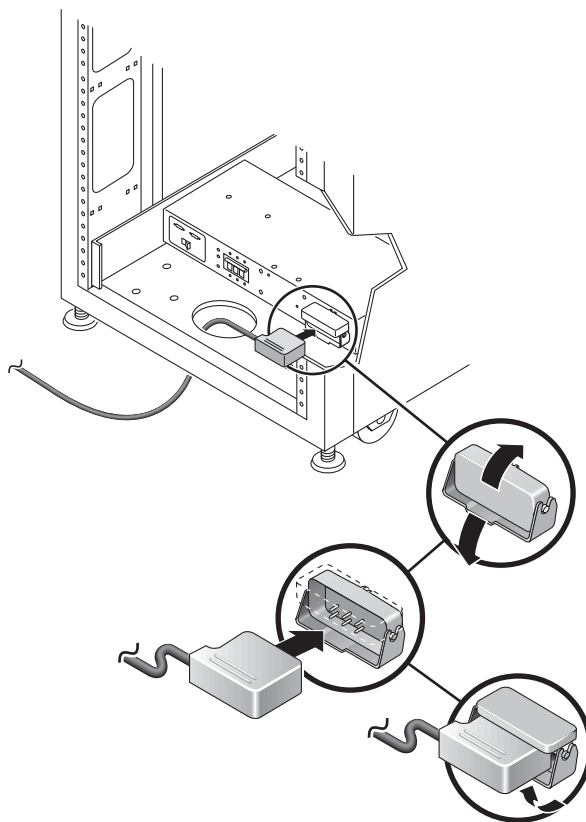

FIGURE 2-16 Connecting the Power Cables
4. Connect each power cable to the front and rear power sequencers (FIGURE 2-16):